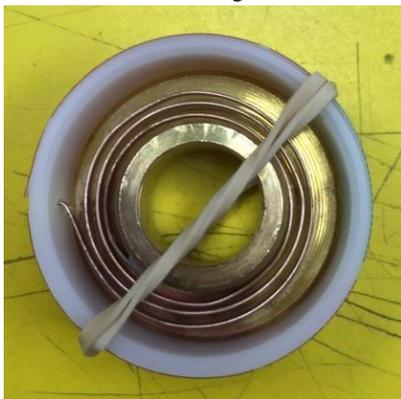

Figure 6
- 3.4 Center the plastic decal ring and verify that it is aligned with the largest diameter of the InGage body. Rubber band the plastic ring and InGage body together to keep them aligned. (See Figure 6)